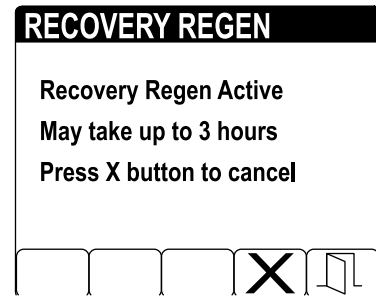

Figure 60
- The InfoCenter displays the time to complete message (Figure 60).